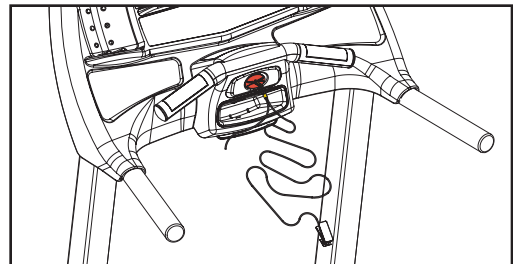

Figure 3
**The function of the emergency stop:** The e-stop key functions as the emergency stop. In an emergency situation, remove the e-stop key from the console and the treadmill will come to a stop. See Figure 3.